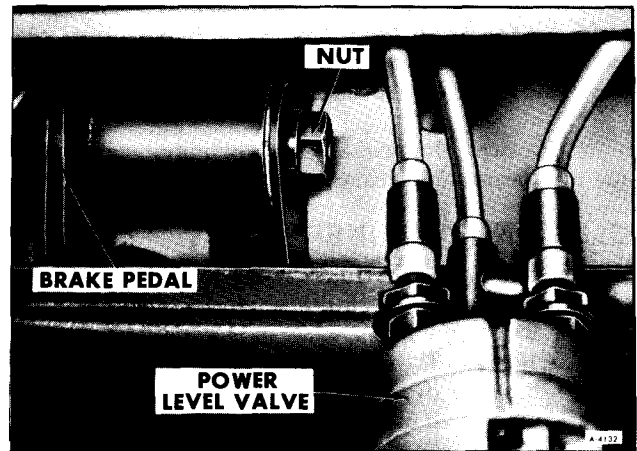

Figure 31—Brake Pedal Assembly (Right Side)
4. Remove bolts from each end of pedal assembly (figure 31).